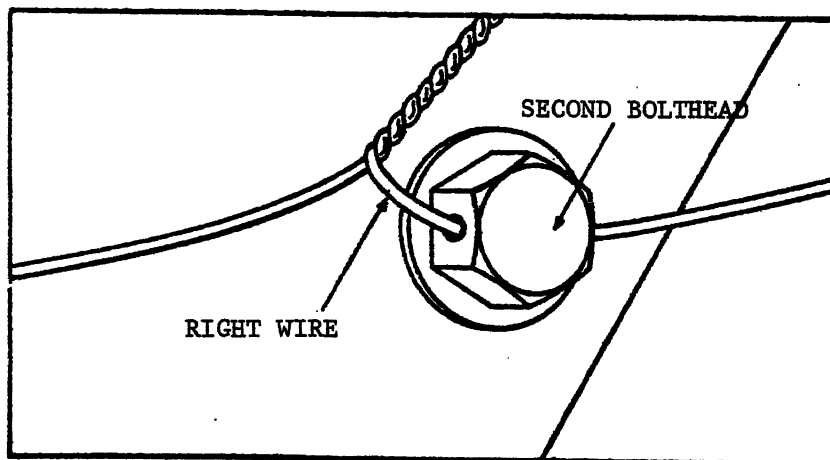

FIGURE 22
- e. With wires on the left side of the second bolthead, pass the RIGHT wire through the drilled passageway. See figure 22.